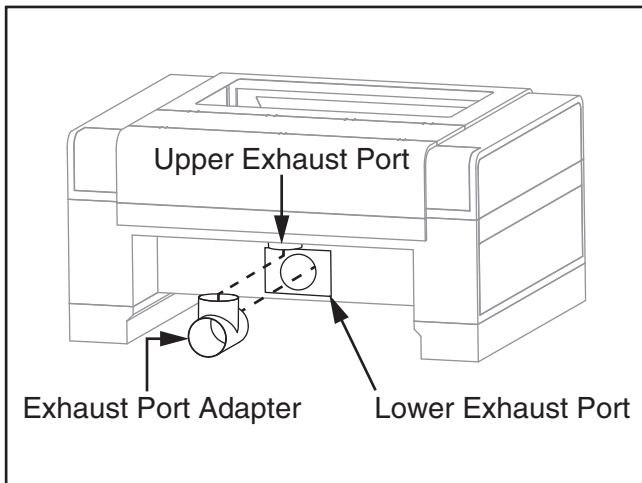

Figure 22. Installing exhaust port adapter.
1. Insert exhaust port adapter into upper and lower exhaust ports on rear of machine and secure with (1) 6" hose clamp on upper exhaust port (see **Figure 22**).